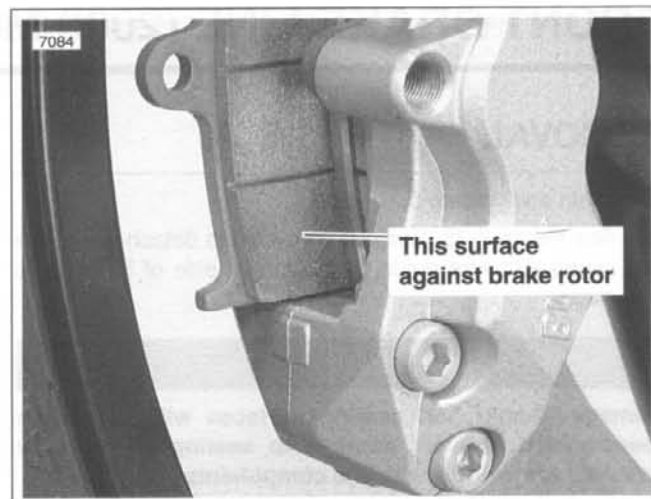

Figure 2-72. Installing Brake Pads
- a. See Figure 2-72. Insert brake pads from behind.